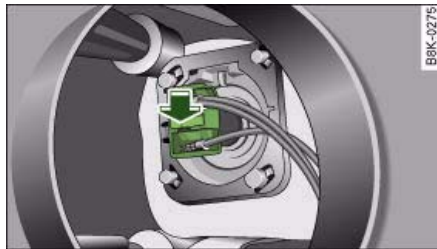

Fig. 263 Fitting bulb for main beam headlights
- Press the connector in the direction of the arrow ⇒ fig. 263 until the bulb engages.